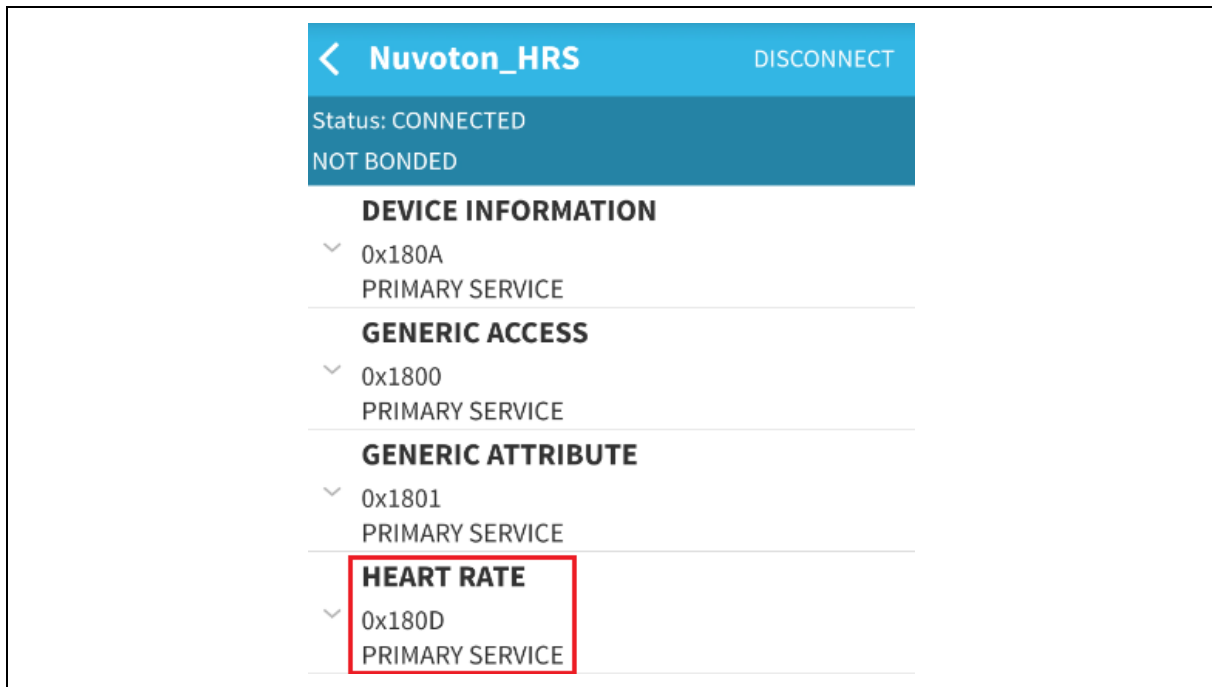

Figure 4-11 Services in Nuvoton\_HRS
2. After clicking the CONNECT button to connect device, you can see all services, as shown in Figure 4-11.